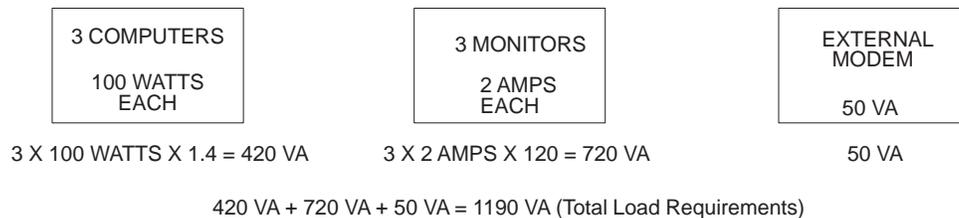

Figure 1. Volt-Amperes Calculations Example
Determine the total load requirements, in volt-amperes, of the equipment you intend to protect with your UPS. The UPS load should not exceed the UPS rating. See Figure 1 and the following procedure to determine the total load requirements:
3. Add all of the resultant VA ratings together to obtain the total load requirement of the equipment to be protected. See the example in Figure 1.